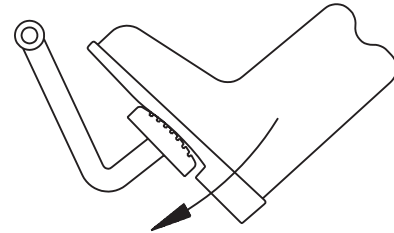

FIGURE 4
3. Check brake pedal height and feel. With the vehicle running, push on the brake pedal until there is no more forward movement. Measure and record the distance from pedal to floor. Brake pedal height and "feel" will be the same after the 691 System is installed, refer to Figure 4.